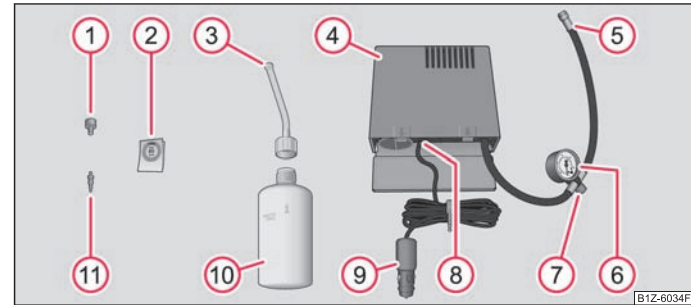

Fig. 182 Components of the tyre repair kit
- Stick the sticker (2) ⇒ page 211, fig. 182 on the dash panel in view of the driver.
- Use the valve remover (1) to remove the valve core and place it down on a clean surface. ■
- Forcefully shake the tyre inflator bottle (10) ⇒ page 211, fig. 182 several times.
- Firmly screw inflation hose (3) onto the tyre inflator bottle in a clockwise direction (10). The film on the cap is pierced automatically.
- Remove the plug from the inflation hose (3) and plug the open end fully into the tyre valve.
- Hold the bottle (10) with the floor facing upwards and fill the whole sealing agent in the tyre inflator bottle into the tyres.
- Screw the valve core back into the tyre valve using the valve remover (1).
- Screw the tyre inflation hose (5) ⇒ page 211, fig. 182 of the air compressor firmly onto the tyre valve.
- Check whether the air release valve (7) is closed.
- Plug the connector (9) into 12 Volt socket ⇒ page 81.
- Switch on the air compressor with the ON and OFF switch (8).
- Allow the air compressor to run until reaching a pressure of 2.0 - 2.5 bar. Maximum run time of 8 minutes ⇒ (1)!
- If you cannot reach an air pressure of 2.0 - 2.5 bar, unscrew the tyre inflation hose (5) from the tyre valve.
- Screw the tyre inflation hose of the air compressor (5) firmly back onto the tyre valve and repeat the inflation procedure.